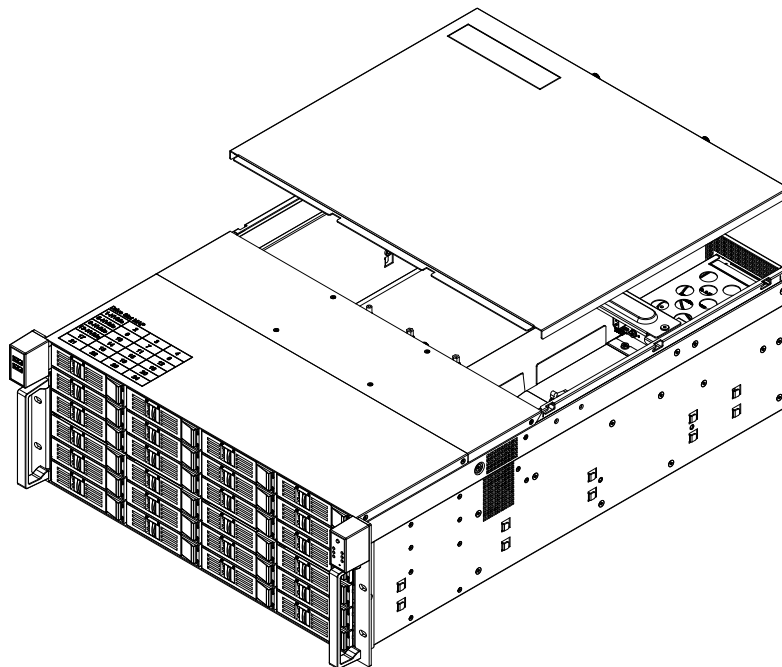

Figure 2.1 Removing the rear top cover/ 移除后顶盖 / 移除後上蓋
2. Slide the rear top cover backwards before lifting upwards to remove it (see Figure 2.1).